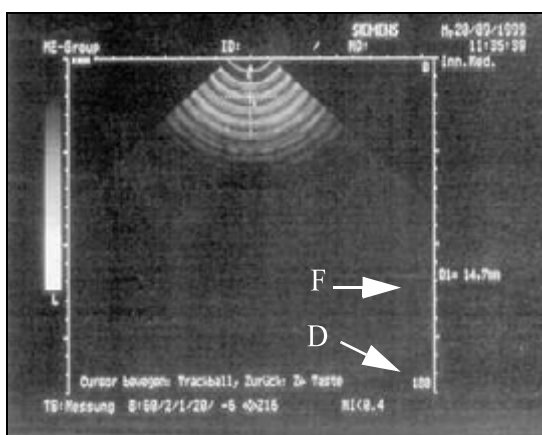

Fig. 79: Target test 1
- Set the value (D/Fig. 79 / p. 76) via the knob  to 180.
- Use the track ball to move to the center of the crosshair. A value of D1 according to the table must appear in the display (F/Fig. 79 / p. 76) as a function of the probe.